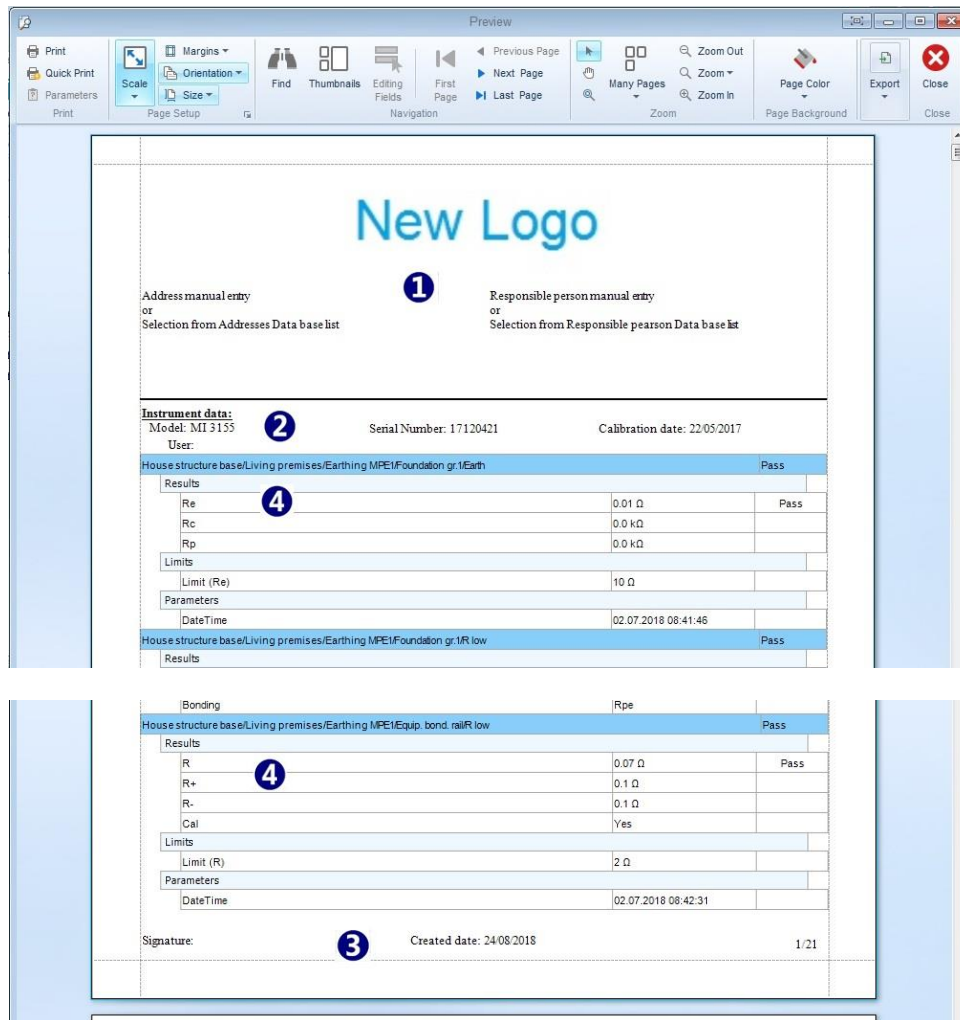

Figure 9.2: Print Results document format preview
- Click on  within Tools group of Home menu tab opens Test project Results document in Preview manager window, **Figure 9.2**.